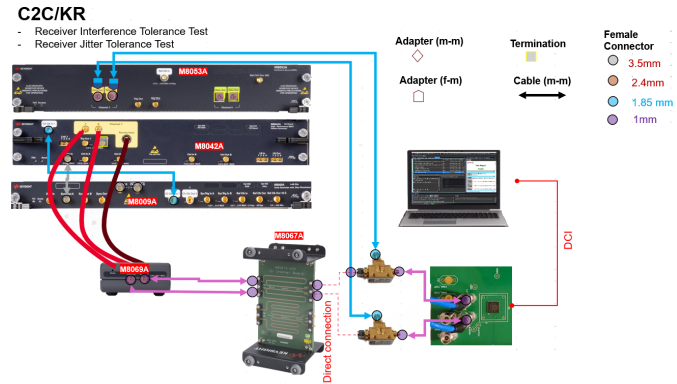

Figure 92 Connection diagram for KR Rx Interference and Jitter Tolerance Test
- Using the test setup in Figure 92, the transmitter taps and the channel noise as determined in the calibration procedures, configure the transmitter to transmit the test pattern specified in the PMD clause that invokes this method.